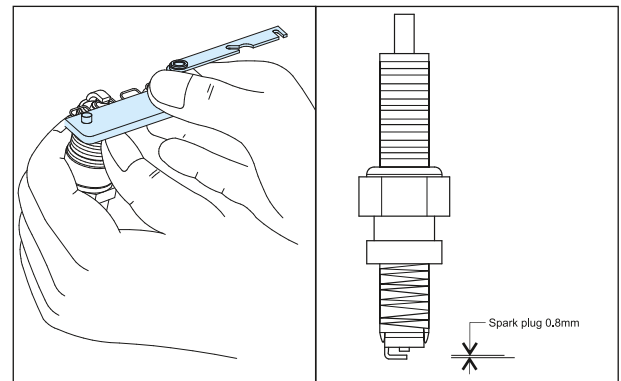

Fig. 2.35
- Reset the spark plug gap to the specified limit. (Fig. 2.35)